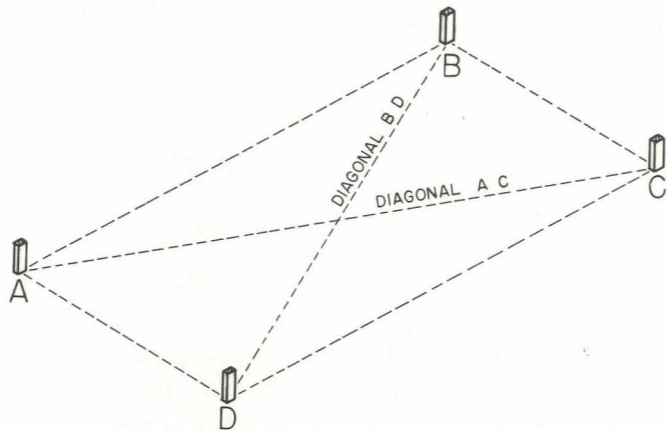

Fig. 3.
7. Recheck all four sides for correct length, then check diagonals. The distance from A to C must equal B to D and they should cross each other at the middle (see Fig. 3.)